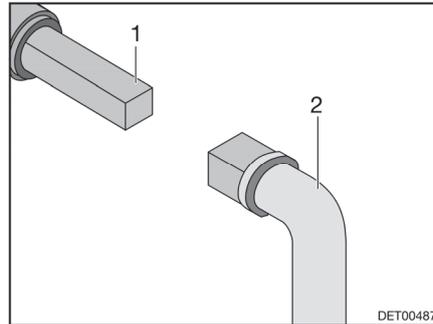

Fig. 143 Operation of the waste water tap
- Place key (Fig. 143,2) onto the square bolt (Fig. 143,1).